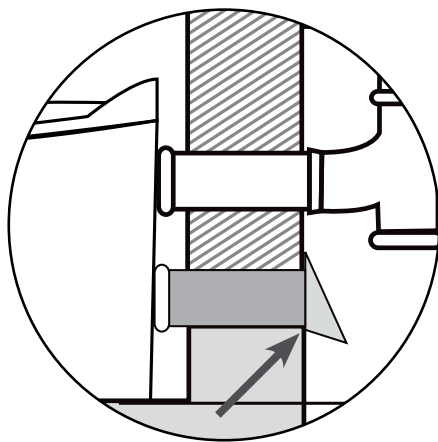

fig. 12
4. After determining the correct length and location of the inlet air pipe, cut the pipe on the outside. NOTE: Cut the pipe flush with the exterior wall, see fig. 12. The inlet air pipe should be sealed with a suitable sealant, such as silicone, Sikaflex, etc.